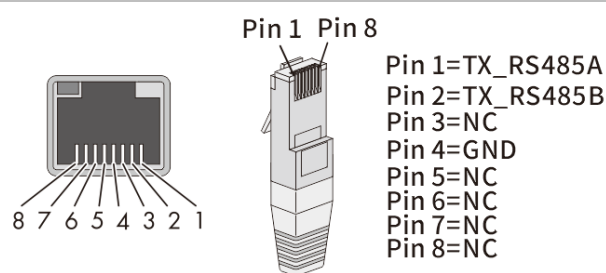

Fig. 32 Cable pin configuration
2. Strip the insulation from the network cable and crimp copper wire to the corresponding terminal (in accordance with DIN 46228-4, provided by the customer) of the standard network connector (RJ45) (see Fig. 32).